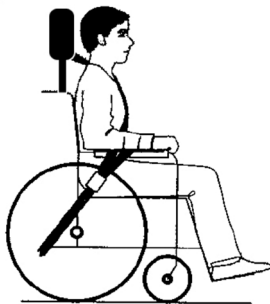

Fig. 5
1. The belts of the wheelchair tie-down and personal restraint systems must be fitted on the lower front side of the pelvis (Fig. 5) in such a way, that the angle of the lap belt is within the range of 30° to 75° to the horizontal (Fig. 3).